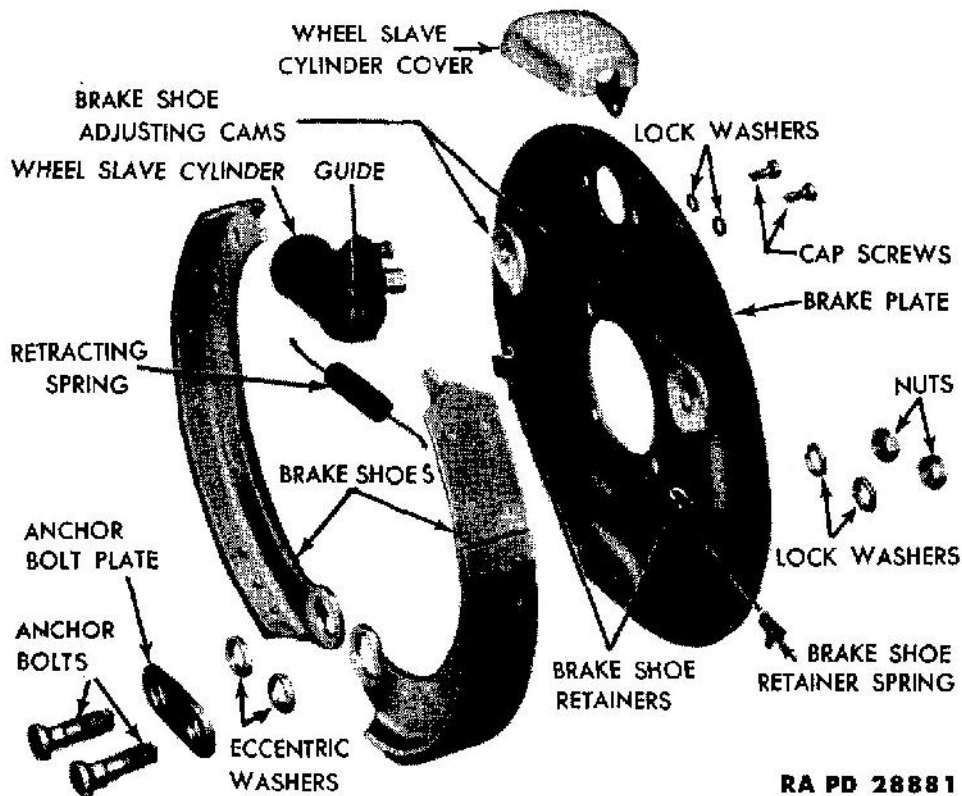

Figure 73 — Service Brake — Disassembled
(1) REMOVAL (fig. 73). Remove the wheel and drum assembly (par. 127). Remove the lock nuts and washers from the anchor bolts. Remove the anchor bolts, eccentric washers and plate. Pull the shoes out of the brake shoe retainers and push the lower ends of the shoes together so that they overlap. Remove the shoes from the slave cylinder and disconnect the retracting spring.
(2) INSTALLATION (figs. 73 and 74). Place the brake shoes together and connect the retracting spring between the shoes. Enter the shoes in the brake shoe retainers and also in the guide at each end of the slave cylinder. Line up the holes in the lower ends of the shoes with the anchor bolt holes in the brake plate. Place the anchor bolts through the anchor bolt plate and install the eccentric washers on the
b. Removal (fig. 73). Remove the wheel and drum assembly (par. 127). Remove the brake shoe retracting spring and pull the shoes away from the slave cylinder. Disconnect the hydraulic line from the slave cylinder (par. 137). Remove the two cap screws which hold the slave cylinder to the brake plate and remove the slave cylinder and cover.
c. Installation (fig. 73). Place the slave cylinder and cover in position on the brake plate and secure them with the two cap screws and lock washers. Connect the hydraulic line to the slave cylinder. Pull the brake shoes up to the slave cylinder and see that they are entered in the guide at each end of the slave cylinder. Connect the retracting spring to the brake shoes. Install the wheel and drum assembly. Bleed the slave cylinder (par. 136 b).